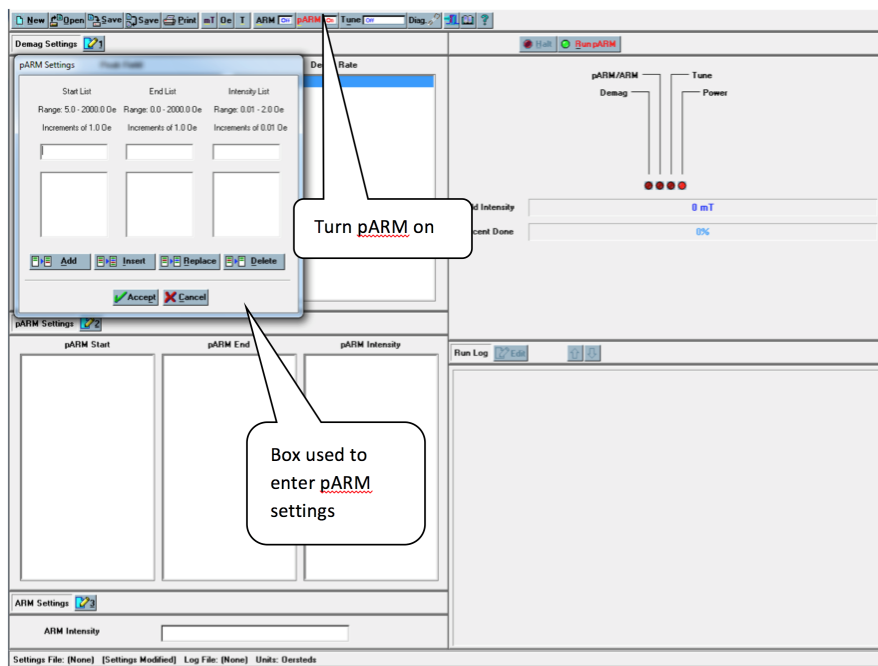

Figure 6: pARM Settings
1. Click the number **2** next to the "pARM Settings" to open the pARM settings window (Figure 6).